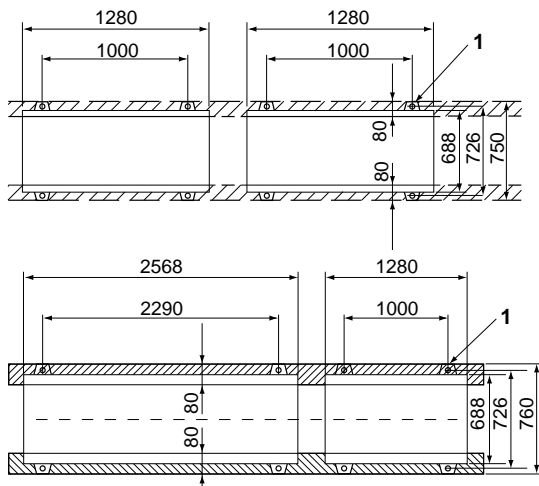

Fig. 5
3. The unit must be installed on a solid longitudinal foundation (steelbeam frame or concrete) as indicated in figure 5.